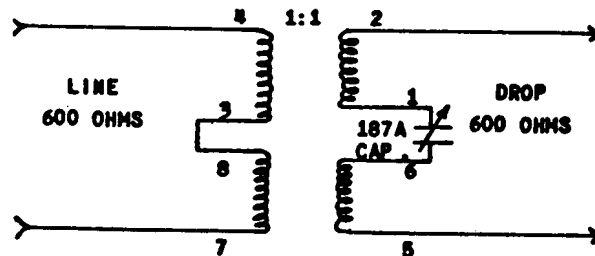

FIGURE 12
side) of the repeating coil. Refer to Figure 12 for repeating coil connections with capacitor.
- (3) Adjust the amplifier gain until 0 (VU) at 1KC is read on the VI.
- (4) Test frequencies are listed in Table 3. Characteristics of cable facilities are described in Paragraph 4.06.
12.11 The schematic of a coil and capacitor arrangement for Schedule C and D circuits is shown in Figure 12.